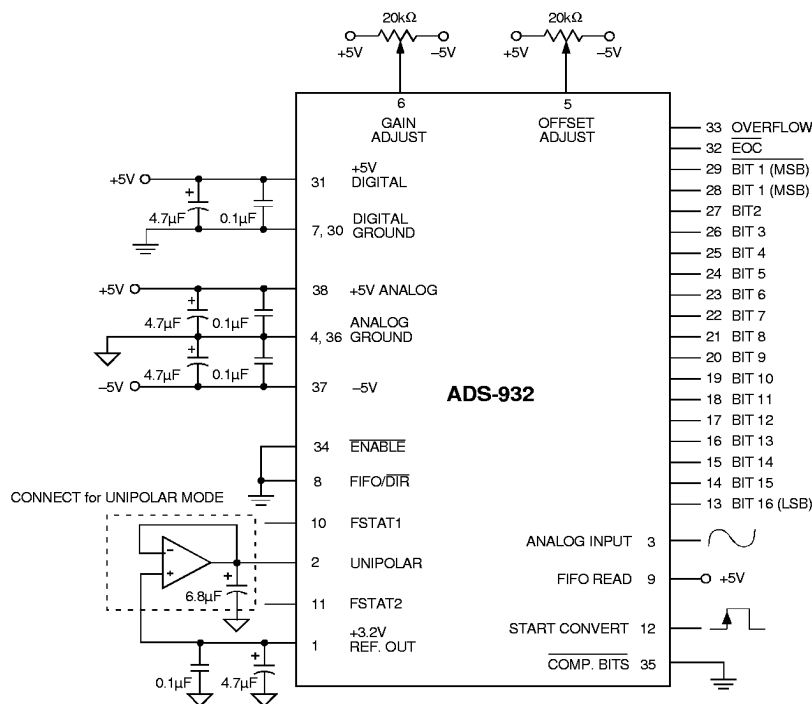

Figure 2. Bipolar Connection Diagram
- The ADS-932 achieves its specified accuracies without the need for external calibration. If required, the device's small initial offset and gain errors can be reduced to zero using the adjustment circuitry shown in Figure 2. When using this circuitry, or any similar offset and gain calibration hardware, make adjustments following warm-up. To avoid interaction, always adjust offset before gain. Tie pins 5 and 6 to ANALOG GROUND (pin 4) if not using offset and gain adjust circuits.
Connect the converter per Figure 2. Any offset/gain calibration procedures should not be implemented until the device is fully warmed up. To avoid interaction, adjust offset before gain. The ranges of adjustment for the circuits in Figure 2 are guaranteed to compensate for the ADS-932's initial accuracy errors and may not be able to compensate for additional system errors.